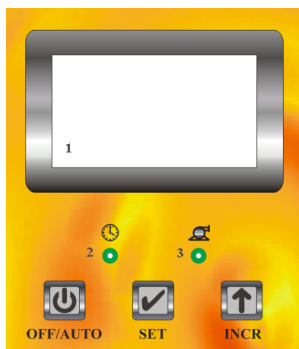

Figure 1
2.1 Front panel – figure 1.
- switched on circulation pump (1);
- switched on electrical heating elements (2);
- activated OFF regime (3);
- overheating thermostat (4);